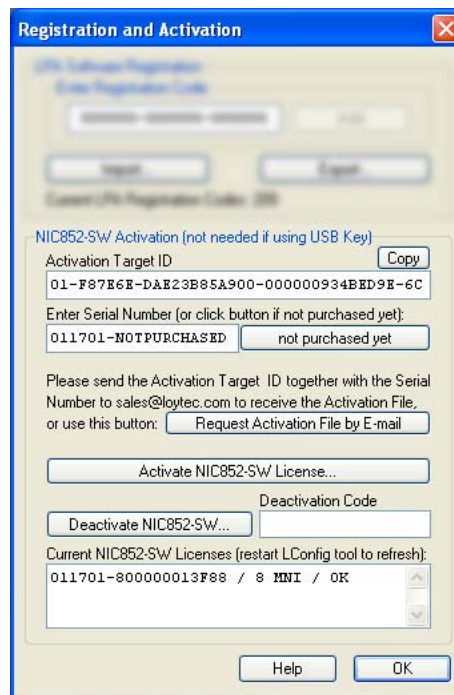

Figure 36: Product Activation
- Start the LConfig Tool, click on 'Register / Activate'. The dialog as shown in Figure 36 will open.